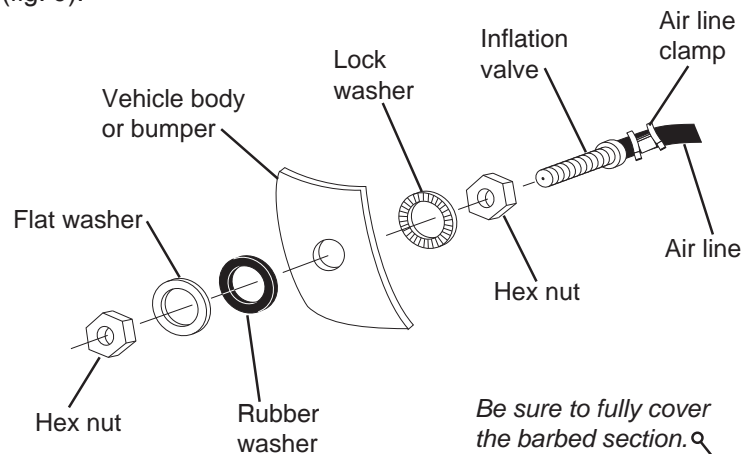

fig. 8
9. Drill a 5/16" hole for the inflation valve and mount as shown (fig. 8). The rubber washer serves as an outside weather seal.
7. Drill 5/16 " hole for inflating valves and mount as illustrated. Rubber washer is for outside weather seal (see fig. 8).